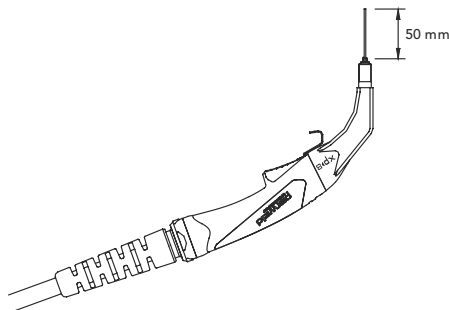

Figure 3.
4. Keeping the torch as straight as possible, use the power source inch facility or torch trigger to feed the electrode wire 50mm from the end of the liner conduit as **Figure 3**.